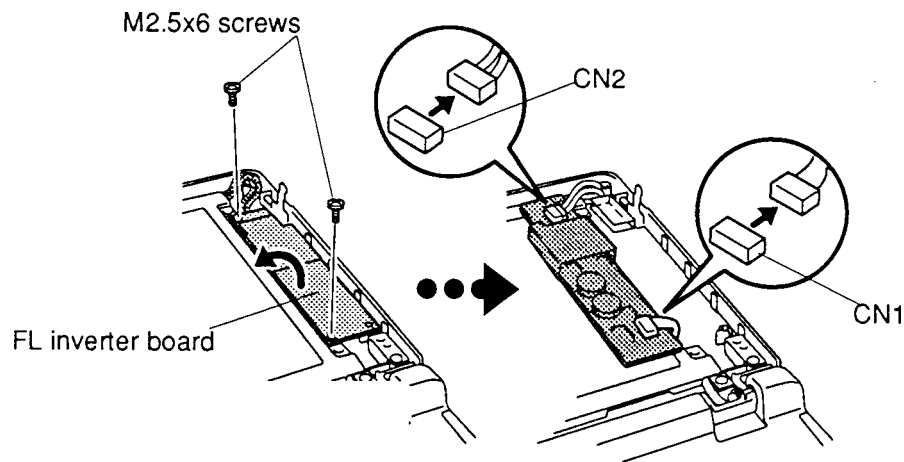

Figure 4-43 Removing the FL inverter board (T4700CS)
To remove the T4700CS's FL inverter board, follow the steps below and refer to figure 4-43.
3. Remove the **two M2.5x6 screws** securing the **FL inverter board** (figure 4-43).
4. Carefully rotate the **FL inverter board** out from right to left and disconnect the **FL inverter cable** from **CN1** and the **FL cables** from **CN2** (figure 4-43).
To install the T4700CS's FL inverter board, follow the steps below and refer to figure 4-43.
1. Connect the **FL inverter cable** to **CN1** on the **inverter board** and the **FL cables** to **CN2** (figure 4-43).
3. Replace the **FL inverter board** and secure it with the **two M2.5x6 screws** (figure 4-43).